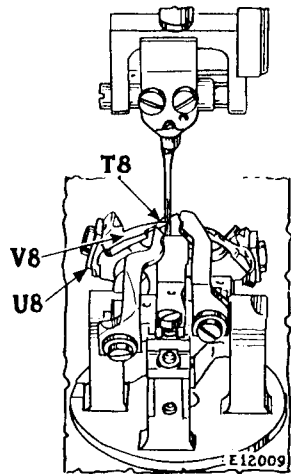
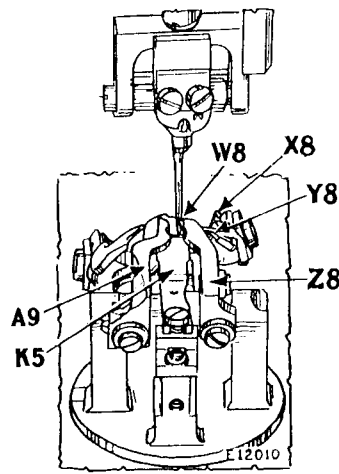
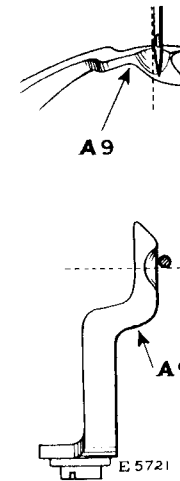
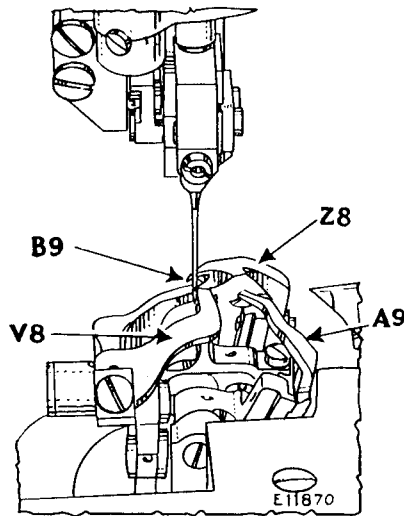

Fig. 14. Showing Correct Timing of Non-Threaded Loooper
Fig. 15. Showing Correct Timing of Threaded Loooper
Fig. 16. Showing Correct Relative Positions of Left Hand Loop Retainer and Needle
Fig. 18. Showing Correct Relative Positions of Loop Retainer and Non-Threaded Looper
When changing the width of bight or lateral throw of the needle, it will be necessary to adjust the loop retainer (A9, Fig. 15) and the non-threaded looper (V8, Fig. 14), as instructed on pages 31, 32 and 34.
When replacing loopers, first remove work clamp plates and throat plate (12, Fig. 4), then place wrench on pattern wheel clamping nut (S5, Fig. 9) and turn until stop lever operating plate (Z5, Fig. 9) rides on the pattern wheel ring (R5, Fig. 9), allowing the machine to be turned by hand. Place non-threaded looper (V8, Fig. 14) on seat of looper rocker (U8, Fig. 14) and turn machine until the needle bar, after descending to its lowest point, has risen so that the **lower timing mark** on needle bar is even with top of top needle bar bushing, and the point of the non-threaded looper has advanced to center of the needle. At this position, the point of the non-threaded looper should be
adjusted to centre of needle, as shown at T8 in Fig. 14, and adjusted sidewise so that it just clears the needle.
The needle guard (K5, Fig. 15) should be set as close as possible to the needle without deflecting it. To set the needle guard in the correct position, loosen its two screws and move the needle guard forward or backward, as required, then securely tighten the two screws.
Turn hand wheel over until looper (Y8, Fig. 15) can be inserted on looper rocker seat (X8, Fig. 15), then turn machine until the needle bar, after descending to its lowest point has risen so that the **lower timing mark** on needle bar is even with top of top needle bar bushing and the point of the threaded looper has advanced to the centre of the needle. At this position, the looper point should be adjusted to centre of needle, as shown at W8 in Fig. 15, and adjusted sidewise so that it just clears the needle.
It is first advisable to adjust the right hand loop retainer (Z8, Figs. 15 and 17). The right hand loop retainer should be set in height so that it just clears the threaded and non-threaded loopers, or so that there is sufficient space between the top side
striking or dragging against the further side of the loop held upon the non-threaded looper, as shown in Fig. 18.
The loop retainers (Z8 and A9, Fig. 18) should be set so that when they are forward in loop holding position, they will hold the loop in such a way that when the needle descends it will enter centrally in the loop.
To replace and adjust left hand loop retainer (A9, Fig. 18), first obtain about the proper amount of bight required by the needle as instructed on page 31. This loop retainer should be set in height so that there is just sufficient space between the top side of the threaded looper and the underside of the loop retainer for the thread to pass through. It should also be adjusted sideways so that, as the needle descends, it just clears it on the side, as shown in Fig. 16, which shows a side and top view of the left hand loop retainer correctly adjusted. The left hand loop retainer should be adjusted forward or back so that the needle in descending will penetrate the loop held suspended on its horn and in such a position that the point of the left hand loop retainer will clear the thread held between the work and the eye in the extreme end
The above adjustment of the adjusting nuts (G2) on the looper driving bar (H2) should position the loopers correctly so that the point of the threaded looper (Y8, Fig. 15) and non-threaded looper (V8, Fig. 14) will be at the center of the needle on their respective strokes when the needle bar has risen, so that the lower timing mark on needle bar is even with the top of needle bar bushing. It may be found that the point of one of the loopers is ahead or back of the center of the needle. If such is the case, make sure that the distance between the points of the loopers is $\frac{9}{32}$ inch (measure by utilizing the $\frac{9}{32}$ inch head of a No. 145 screw, one of which is located at the base of the buttonhole cutting lever shaft support bracket, see R8, Fig. 8). Pass the $\frac{9}{32}$ inch head between the points so that the diameter of the screw head just drags upon each of the points as the screw head is passed between. Then readjust the adjusting nuts (G2, Fig. 3) for the looper driving bar (H2, Fig. 3) up or down, as the case may be, to bring the point of the looper to the center of the needle. Any adjustment of the looper driving bar moving the looper to or from the center of needle will throw the other looper in the opposite direction, therefore each looper should be checked with respect to its own dip of the needle.
The loop retainer driving bar adjusting nuts (A2 and C2, Fig. 3) should now be positioned to raise or lower the driving bar (8), thus positioning the loop retainer seat on the carrier (O, Fig. 3) in a vertical position when loop retainer slide (B2, Fig. 3) is at its extreme throw. When the correct position of loop retainer driving bar is obtained, it will bring the point of the right hand loop retainer (Z8, Fig. 15) just to the further edge of the non-threaded looper (V8, Fig. 14) as the non-threaded looper advances and the right hand loop retainer remains stationary. Should the right hand loop retainer overlap or fail to come up to within a few thousandths of the further edge of the non-threaded looper, it will be necessary to adjust the loop retainer by removing or adding shims, as referred to on page 35. After making the adjustments to the looper driving bar (H2, Fig. 3) and the loop retainer driving bar (8, Fig. 3), ratchet the machine as referred to on page 60 to see that there is no bind to the adjusting nuts as the looper bracket (M2, Fig. 3) is rotated.
When replacing a looper driving crank (D2, Fig. 3) to the looper frame (W, Fig. 3), position the looper driving crank gear in proper mesh with the looper driving gear so that the timing marks on each gear are in line with each other. Turn the looper driving crank until the set screw on the crank gear is downward and in direct line with the screwdriver hole in the bottom edge of the looper frame (W, Fig. 3) and holding the driving gear and crank gear in this position, turn the looper driving crank (D2, Fig. 3) so that the $\frac{3}{16}$ inch hole (E2, Fig. 3) in its flange is to the left and the lower edge of hole is over and exactly in line with the top edge of the left hand counterbored screw hole (F2, Fig. 3) in the flange of the looper driving crank bushing which is directly under the flange of the looper driving crank (D2) when looper frame (W) is in an upright position, then slightly tighten set screw. Now place looper frame (W) on the machine as instructed on page 35. After making sure that the looper driving bar (H2) is assembled with the lower adjusting nut (G2, Fig. 3) flush with the lower end of the looper driving bar (H2), as instructed on page 35, set the non-threaded looper (V8, Figs. 5 and 18) so that the forward edge of the non-threaded looper (V8) seat is flush with the forward edge of the seat on the looper carrier (P8, Fig. 5). Turn the hand wheel (D, Fig. 2) until the needle bar, after descending to its lowest point (on the depth stitch or vibration nearest to the non-threaded looper) has risen so that the lower timing mark on needle bar is even with the top of the top needle bar bushing and advance or retard the looper driving crank (D2, Fig. 3) a very slight amount until the point of the non-threaded looper (V8, Fig. 18) is opposite the center line of the needle. (This may be done by turning the hand wheel (D) over until it is noted that the looper driving crank remains stationary and holding the hand wheel (D) in this position and with a punch striking the $\frac{3}{16}$ inch hole in the flange of the looper driving crank.) Now turn the hand wheel (D) over until the needle bar, after descending to its lowest point (on the slit stitch or vibration nearest to the threaded looper), has risen so that the lower timing mark on needle bar is even with the top of top needle bar bushing, then position the point of the threaded looper (Y8, Fig. 15) so it is opposite the center line of the needle. Carefully measure the distance between the points of the non-threaded looper (V8, Fig. 18) and the threaded looper (Y8). Should the distance be greater than $\frac{9}{32}$ inch, turn the looper driving crank (D2, Fig. 3) a slight amount in a counter clockwise direction while holding the hand wheel (D) or should the distance be less than $\frac{9}{32}$ inch, turn the looper driving crank (D2) a slight amount in a clockwise direction. Now proceed as before to bring the needle bar to the timing mark on the depth stitch